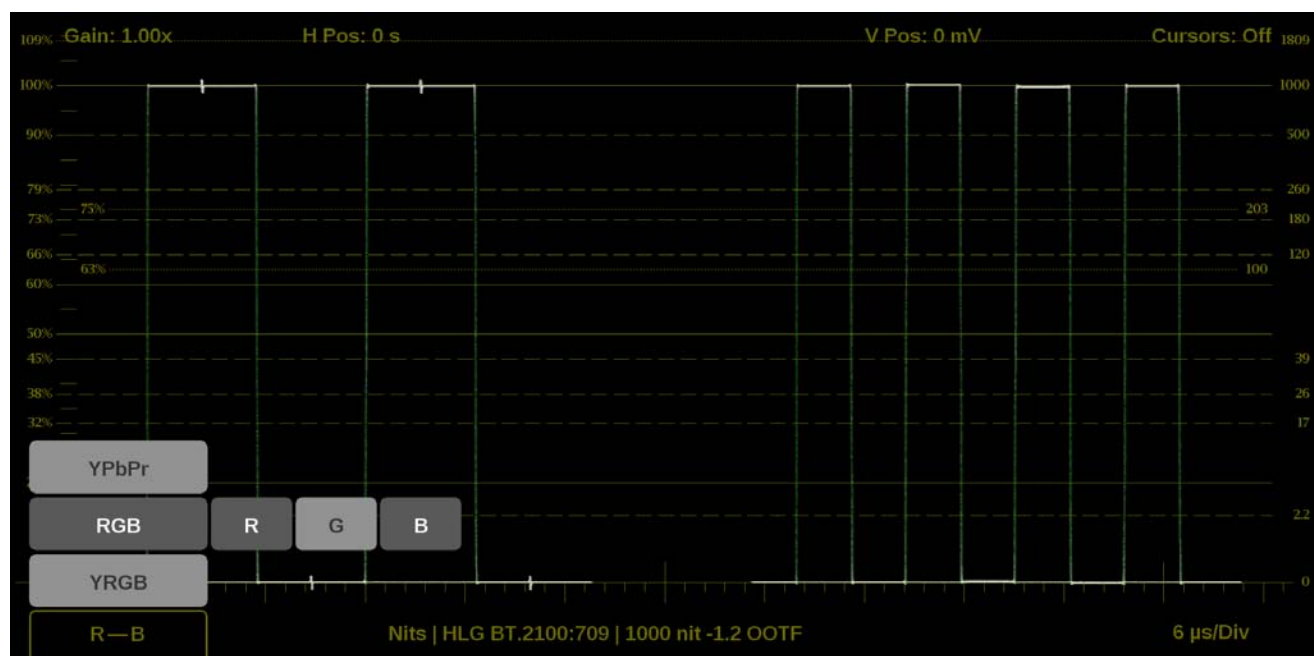

Figure 77: Waveform on-screen tools – Display Mode
1. Touch the button in the bottom left corner of the application to expand the available display options. (See Figure 77.)